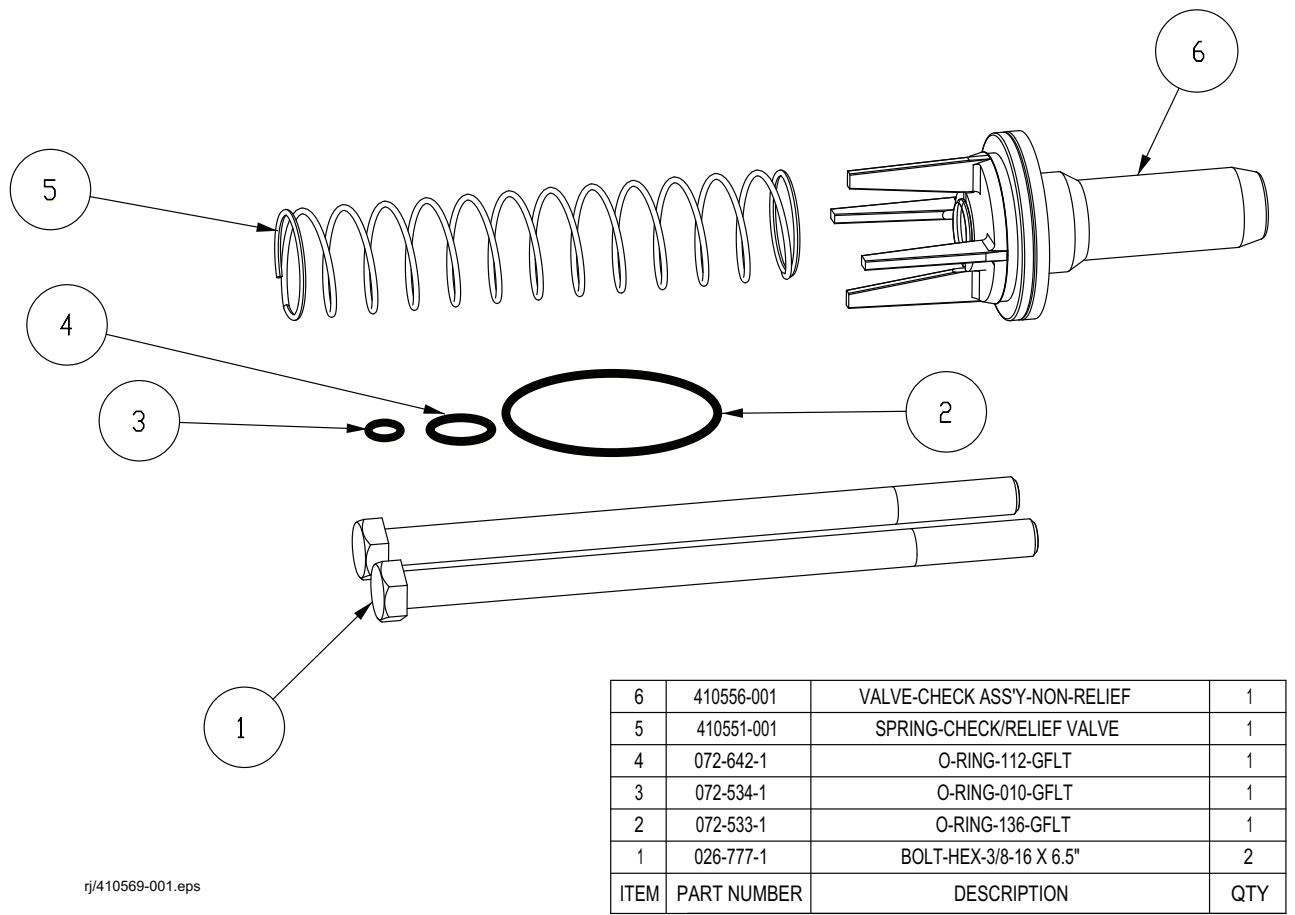

Figure 10. Service Kit 410569-001 Check Valve (Non-Pressure Relief Version), Spring, Fasteners, Seals
- Service Kit 410569-001 Check Valve (Non-Pressure Relief Version), Spring, Fasteners, Seals (See Figure 10).